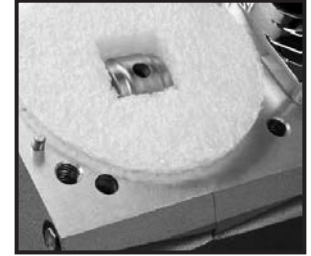

Fig.5- Clean surfaces
- Inspect the entire surface of the studs for damage. *See Fig.5*